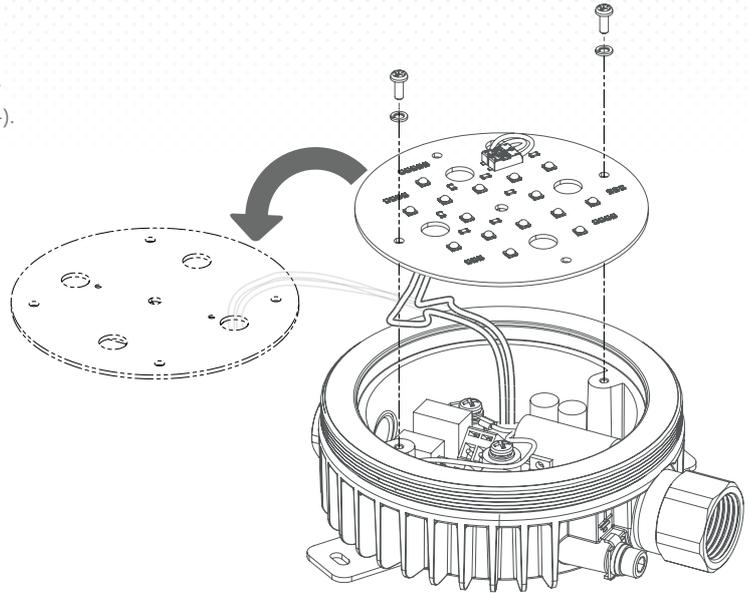

FIG. 4
- Unscrew (2) two screws along with (2) two washers holding the LED board. Remove the LED board from the luminaire body, providing access to the driver (see Fig. 4).
- If the Plafond™ fixtures come with pre-installed M20-to-NPT 3/4" or 1/2" (1) one adapter and (1) one plug to be used with end user's Class I Division 1 cable glands, please, follow corresponding cable gland installation manual that comes with those cable glands (see Page 5).